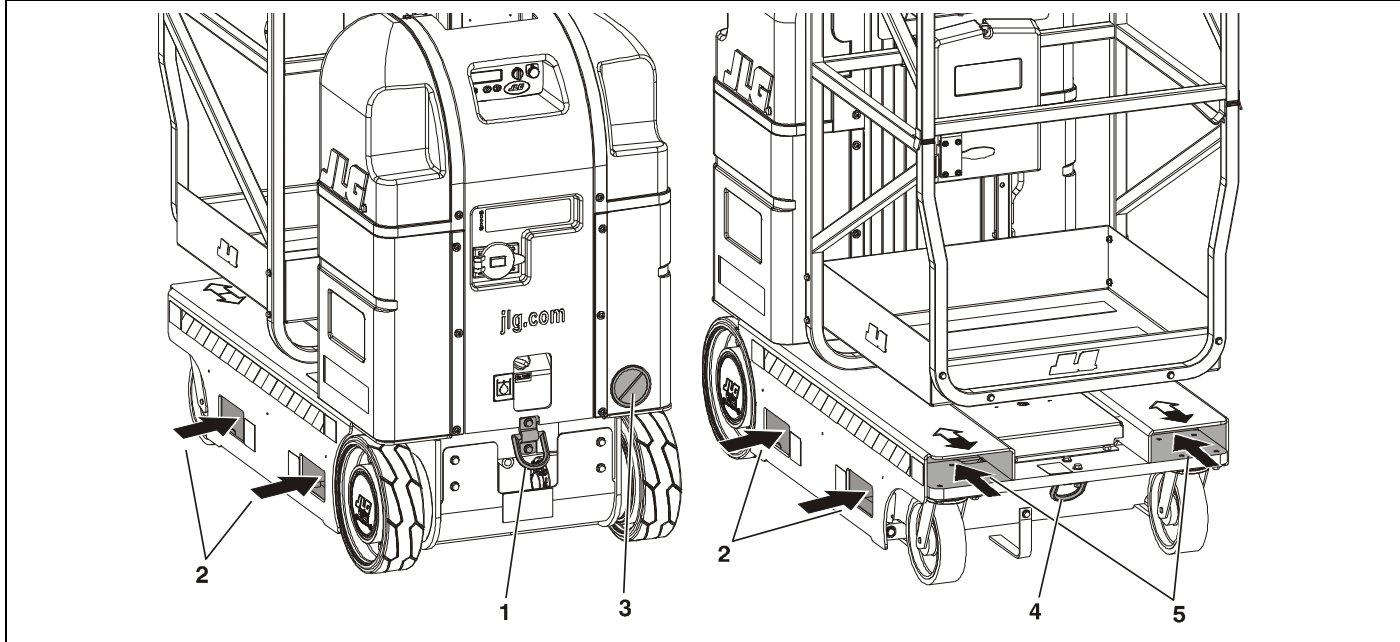

Figure 3-7. Forklift Truck Lifting Pockets and Machine Tie Down Loop Locations.
1. Secure machine with an adequate chain attached through the tie down loops located at the front and rear of machine. (See Figure 3-7.)
All MVL and MSP Model Lifts are equipped with wide forklift pockets running the length of the base frame and also through the sides of the base. (See Figure 3-7.) This allows the machine to be either transported around a work area or lifted onto a higher level using a standard forklift truck.